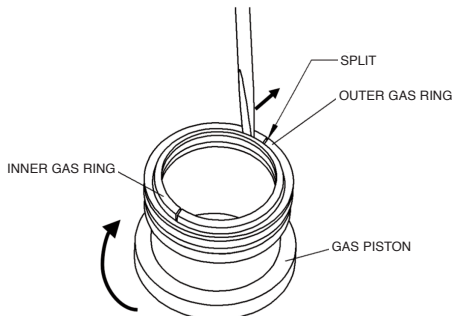

Figure 11
1. Insert a flat head screwdriver between the inner and outer gas rings to the left of the split in the outer gas ring (Figure 11).